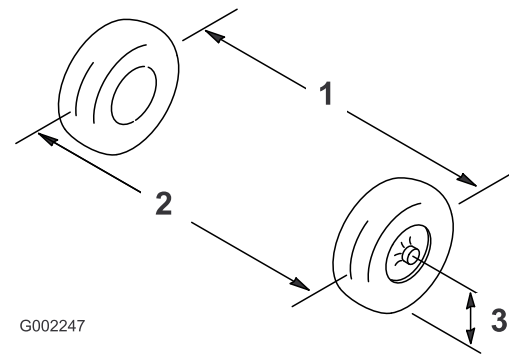

Figure 101
2. Measure the distance between of the front tires at the axle height at the front and rear of the front tires (Figure 101).